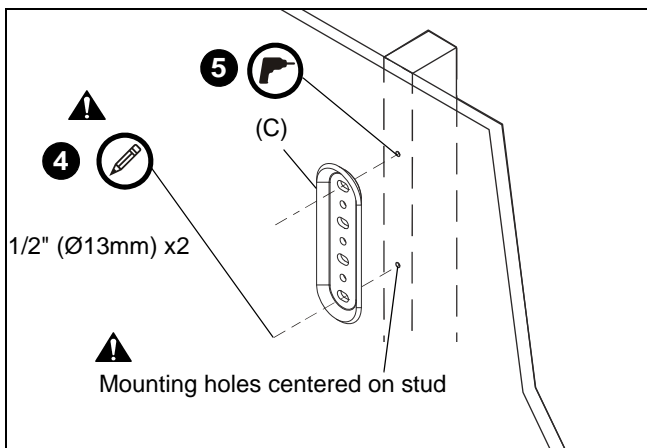

Figure 5
3. Align mounting holes in mount with studs making sure mounting holes are centered on studs. (See Figure 5)
WARNING: IMPROPER INSTALLATION CAN LEAD TO EQUIPMENT FALLING CAUSING SERIOUS PERSONAL INJURY OR DAMAGE TO EQUIPMENT! (See Figure 5)
4. Mark location of two mounting holes on wall using the wall plate (C) as a template. Mark holes where the top and bottom holes of the wall plate be connected.
5. Drill two 1/2" (Ø13mm) holes. (See Figure 5)